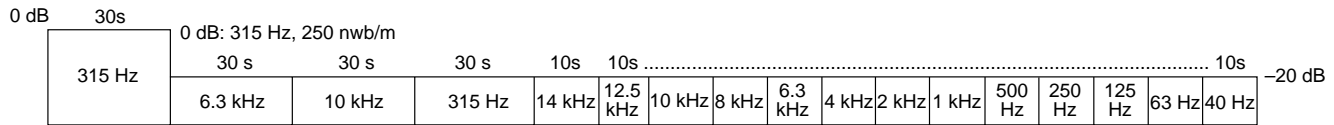

Fig. 6-2 Constants of the Test Tape STD-331E
- STD-331E : Playback adjustment (See Fig. 6-2)